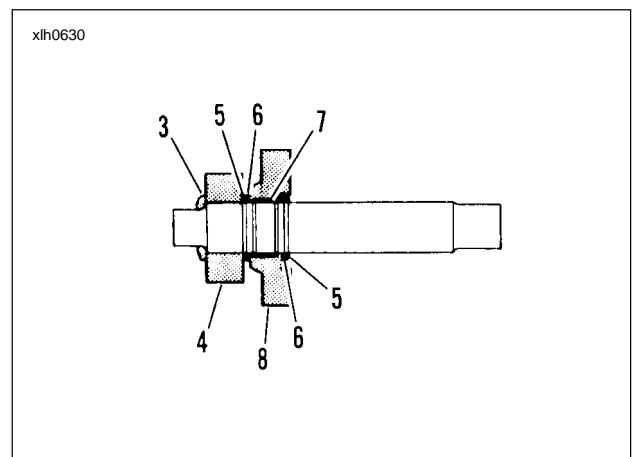

Figure 6-40.
8. See Figure 6-40. Remove beveled spacer (3) and countershaft 4th gear (4).